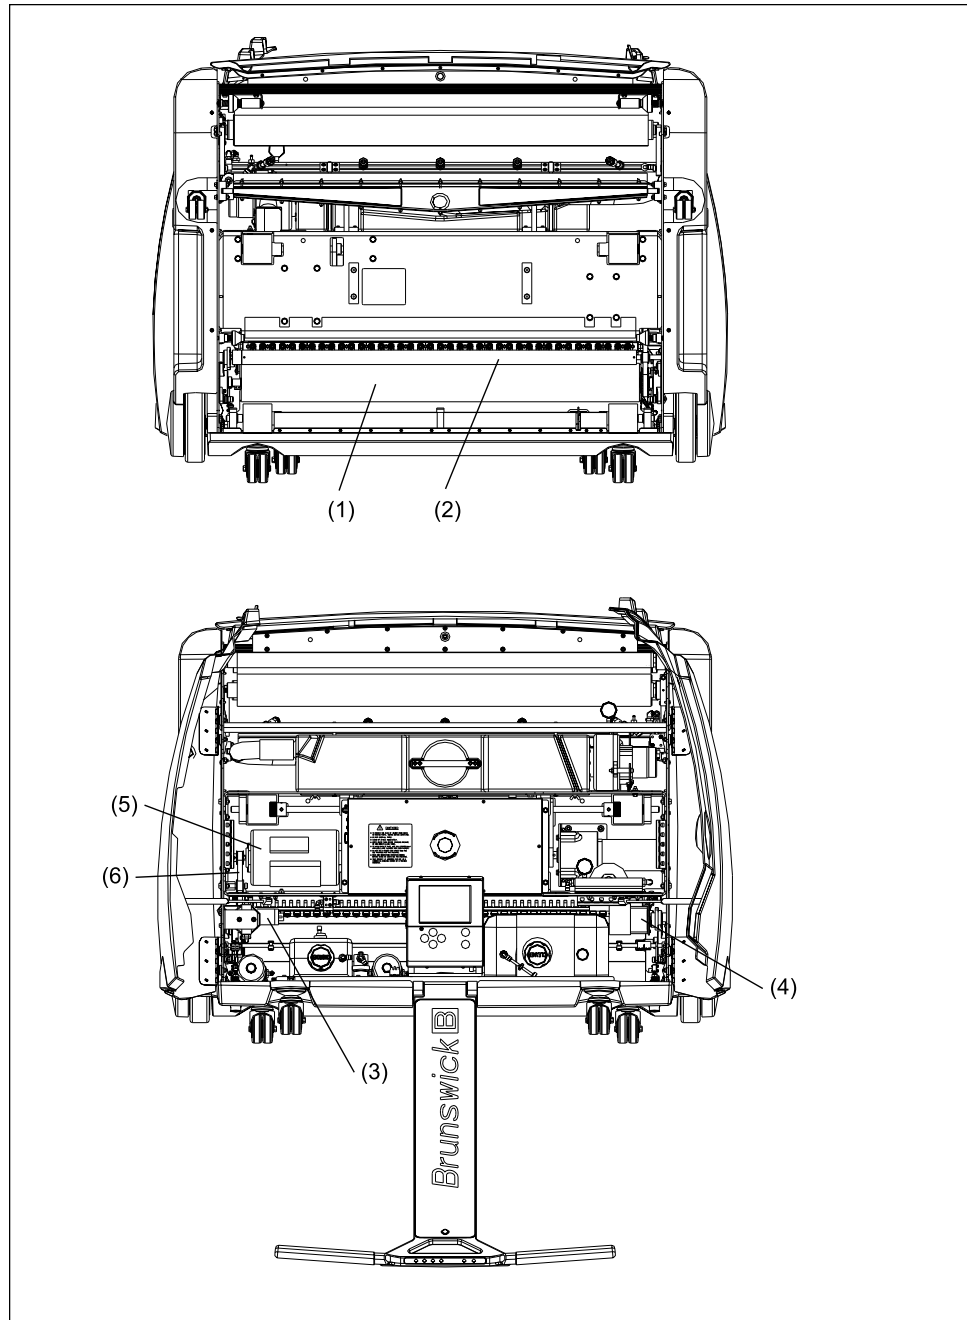

Figure 6-5. Buffing System
1. During the forward travel of the buffing operation, the machine disperses and buffs the conditioner on the lane surface, then continues its return travel to the foul line. Refer to Figure 6-5.